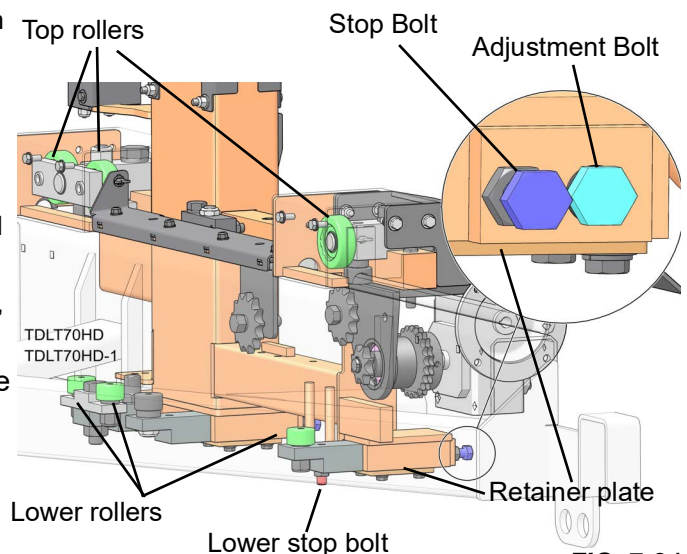

FIG. 7-21
3. Loosen the four retaining plate bolts. See FIG. 7-21.
1. Remove the cover plates to observe the middle upper and lower track rollers as you move the saw carriage down the track. See FIG. 7-21. .
9. After the lower track rollers are adjusted properly, adjust lower stop screws. See FIG. 7-21.